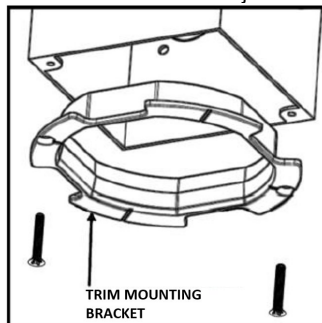

Figure 11
Step 2. Take trim mounting bracket and secure it as shown in (Fig. 11 & 12) with provided flat head screws to junction box.
Note: Trim must be oriented so that center of friction springs aligns with the orientation indicator notches on the mounting bracket (see Fig. 11). Carefully push trim towards ceiling until fully installed with trim ring flush to the ceiling.